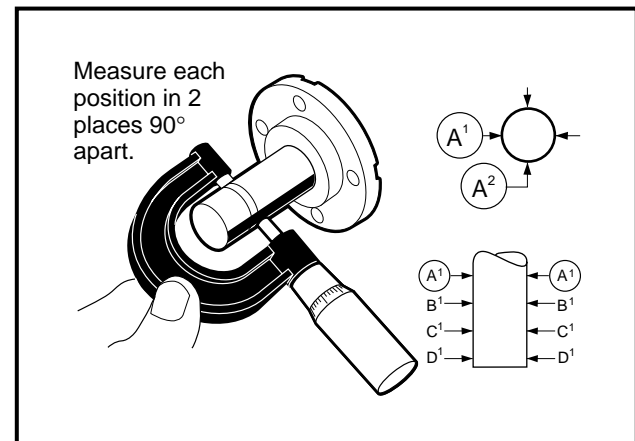

Figure 13-81 Measure O.D. of Counterbalance Guide Shaft
2. With an outside micrometer, measure the outside diameter of the guide shaft surface (**Figure 13-81, Page 13-38**).